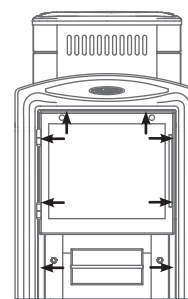

Figure 8. Door disassembling under installation of the stove «Vitra»
1. Unscrew self-tappers 8 ps. that fixes a door with a frame to a fuel canal and remove a door; (see Figure 8)